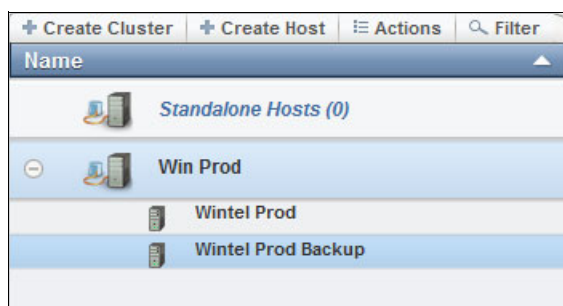

Figure 11-56 Hosts window showing the created cluster
5. Repeat the previous actions to add all hosts that are required in the cluster. After you complete all the hosts, assigned hosts will be listed under the cluster in the Hosts window as shown in Figure 11-56.